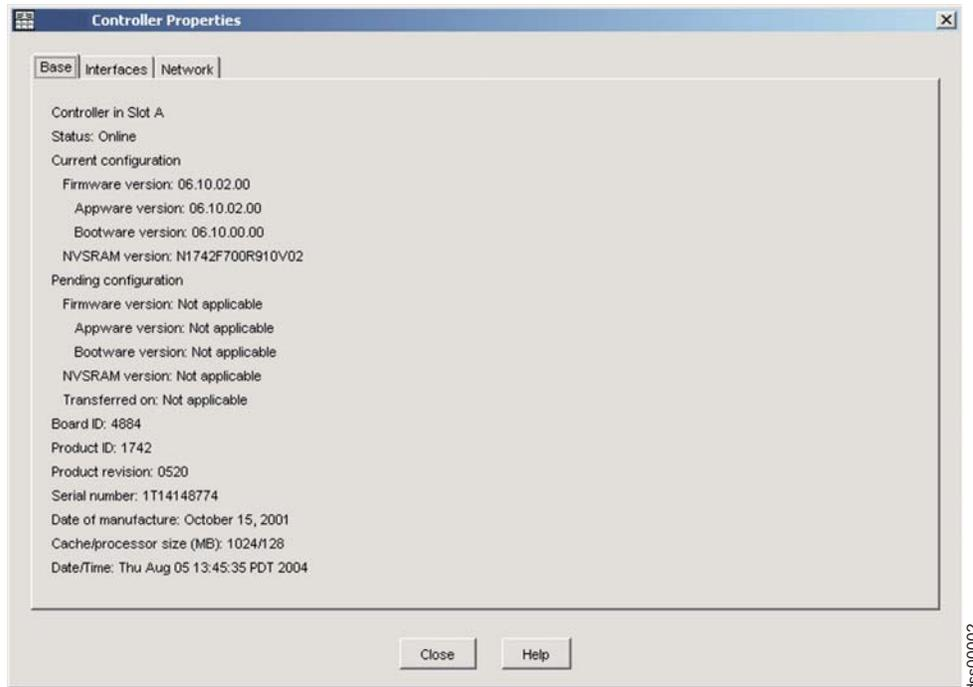

Figure 5. Controller Properties window
2. In the Controller Properties window, find the value of the Serial number attribute. In the example shown in Figure 5 on page 46, the controller in slot A has the controller ID number (serial number) 1T14148774, and is represented by `dac1`.